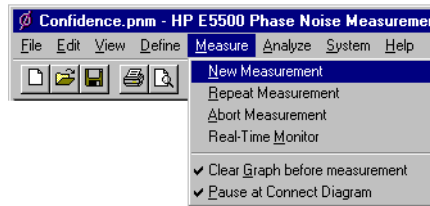

Figure 7-50 Selecting a New Measurement
- 1 From the **Measurement** menu, choose **New Measurement**. See Figure 7-50.d